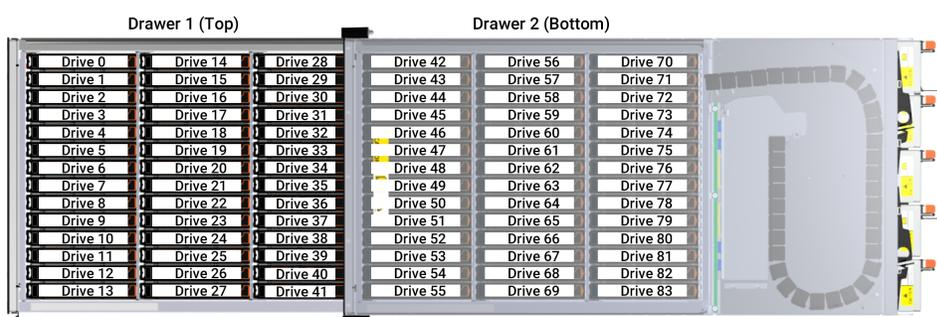

Figure 90. Drive Location
1. Identify which drawer contains the drive to be replaced. If the drive number is known, the plan in Figure 90 “Drive Location” on page 86 can be used. If the drive has failed, the drive fault LED is lit amber on the relevant drawer.
3. Locate the drive to be replaced, either by using the drive plan (see Figure 90 “Drive Location” on page 86) or by looking for the amber LED on the drive that indicates a fault.